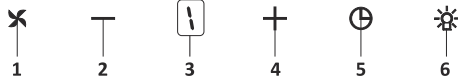

Fig. 15: 5 Spd Dig Button
1. ➤ Press this button to turn on the product. Fig. 15
2. ➤ Press this button to decrease the motor speed. Fig. 15
3. ➤ Dig display You can follow which speed the product is currently working on this display. Fig. 15
4. ➤ Press this button to increase the motor speed. Fig. 15
5. ➤ When timer button is pressed, a 15-minute timer function will be activated; display will give a signal once the timer starts and the motor will stop automatically after 15 minutes. Fig. 15
6. ➤ Press this button to turn on and off the lamp. Fig. 15